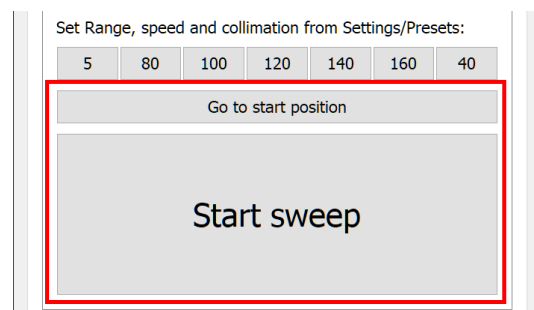

Figure 37. Go to start position active and Start sweep grey.
3. Make sure the LoniMover is in start position (Figure 37).
5. ...click the “Start sweep” button in the LoniCT software (Figure 37).